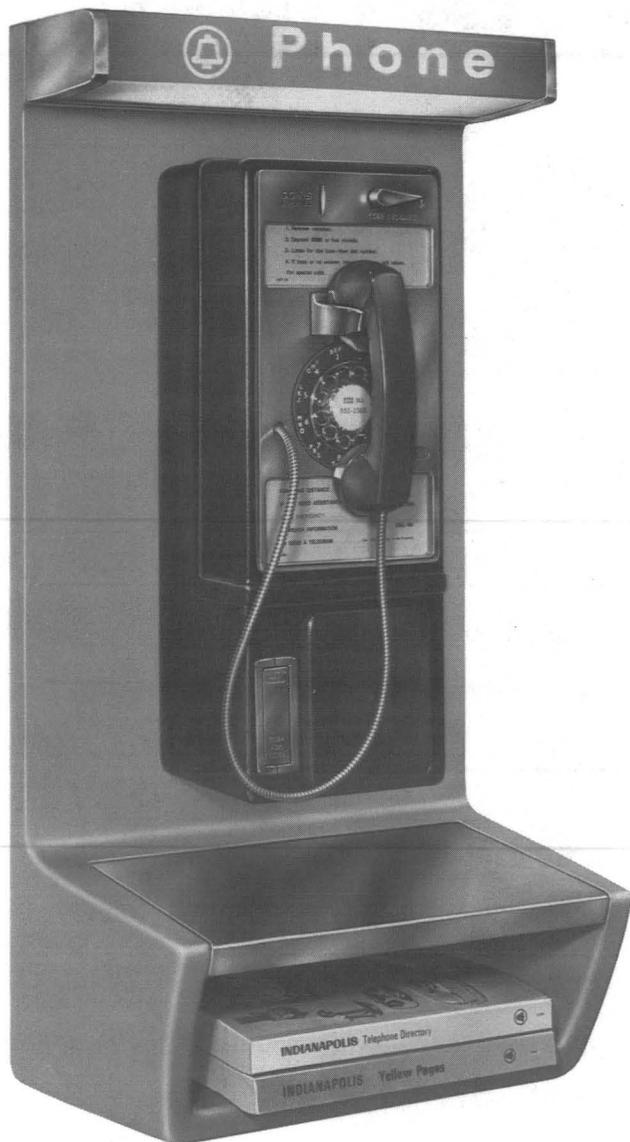
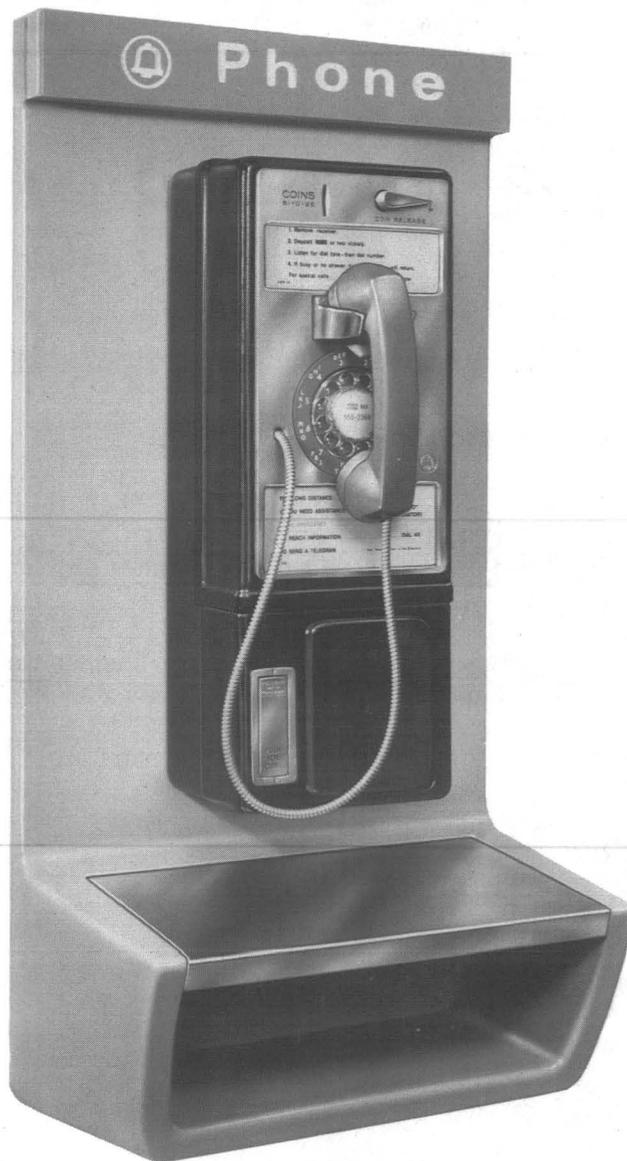

Fig. 1—KS-19945, List 1 Coin Telephone Shelf With
Fig. 2—KS-19945, List 3 Coin Telephone Shelf With
**2.01** The KS-19945 coin telephone shelf (Fig. 1 through 5) is a wall mounted Fiberglas reinforced polyester molded unit intended for indoor use only.
**2.05** The shelf is designed for a KS-19681, List 9 or List 10 illuminated sign (Fig. 1) or a plastic nonilluminated sign (Fig. 2 and 3).
**2.06** The shelf will accept a 1A/1C/1E-type coin telephone set (Fig. 1) or a 236G coin collector (Fig. 3). No provisions are made for using a